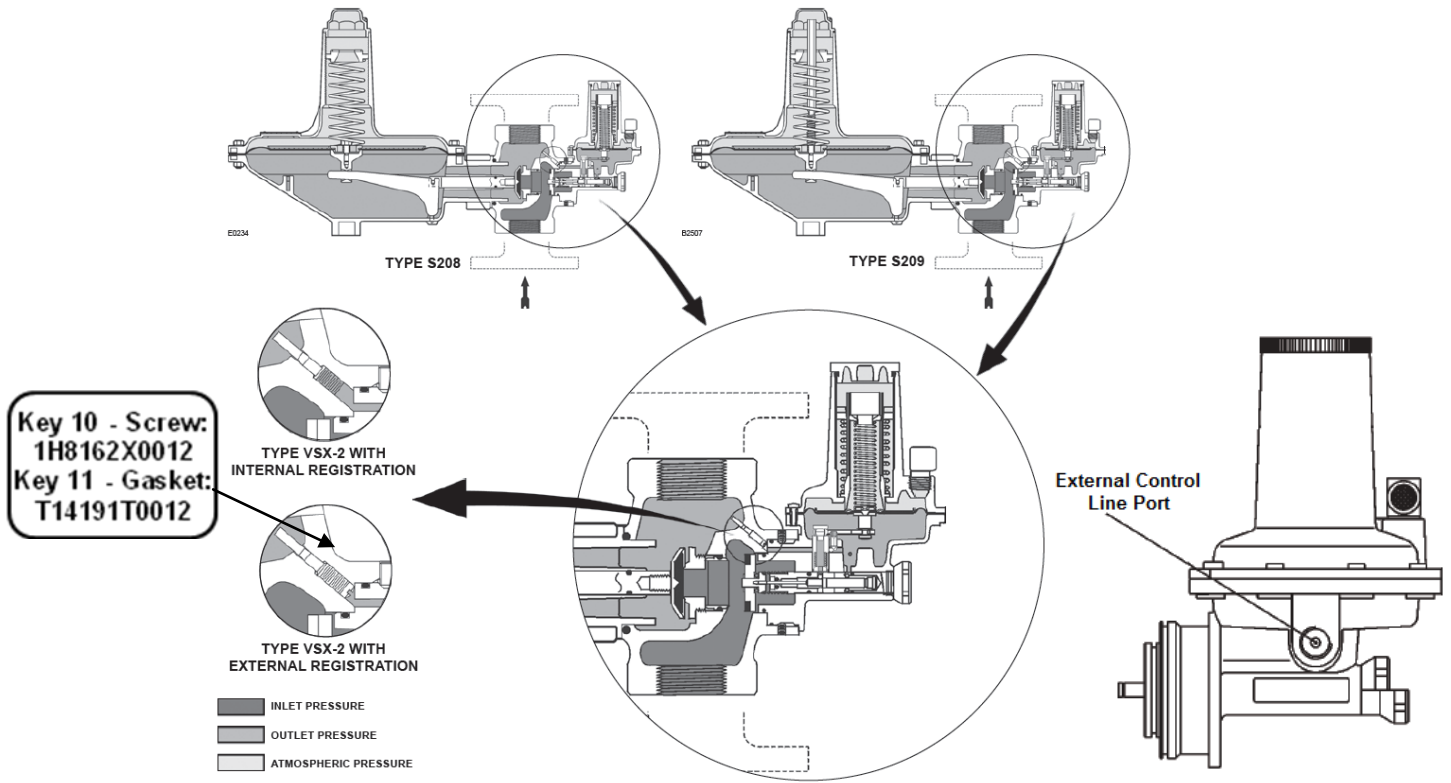
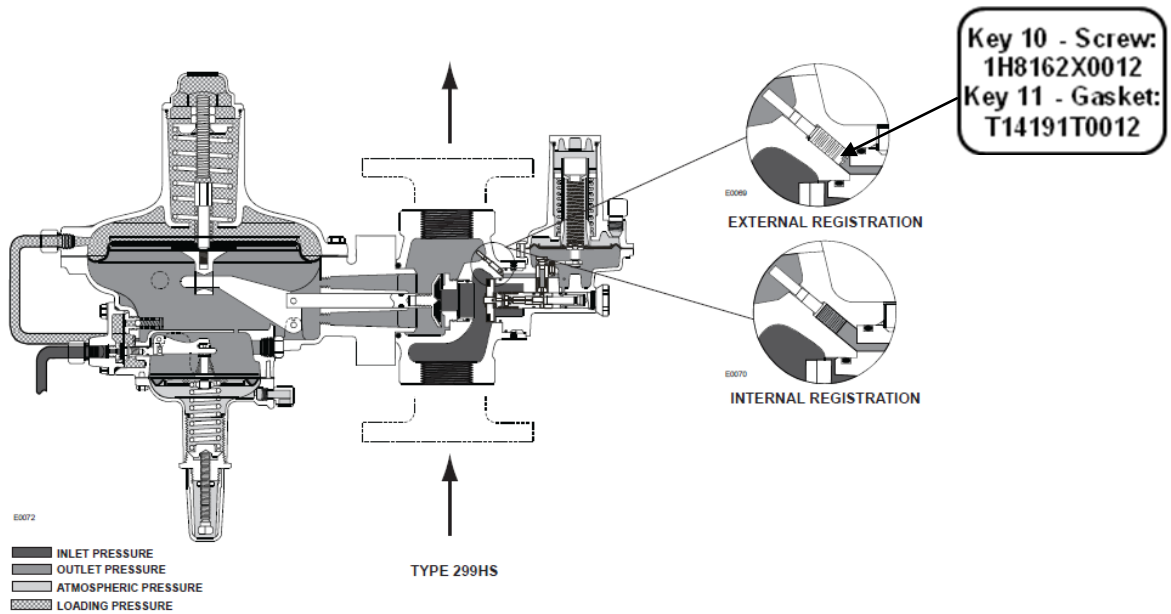

Figure 1: Fisher Type S208 and S209 Regulators
Figure 2: Fisher Type 299HS Regulator
Our records indicate that you have purchased a Fisher Type S208, S209 regulator shown in Figure 1 or Fisher Type 299HS regulator shown in Figure 2 with an internal registered VSX/VSX2 (VSX) slam-shut device and an underpressure shutoff (UPSO) setting. Please read the below product service bulletin and complete the required necessary actions.
1. Locate all S208, S209 and 299HS regulators with an internally registered VSX shutoff device and an underpressure setpoint. An internally registered VSX will have a pipe plug located in the external control line port on the VSX and no screw (key 10) or gasket (key 11) installed in the registration port. See Figure 1 for the S208/S209 or Figure 2 for the 299HS.